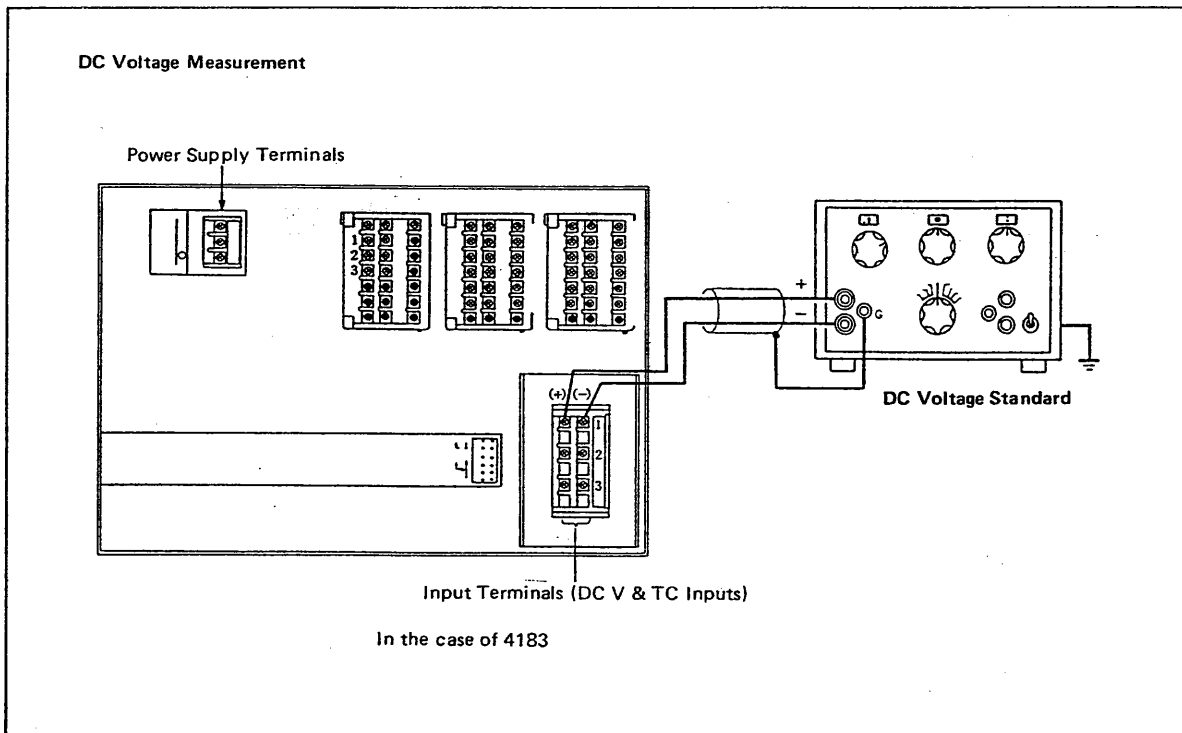

Figure 6-6.
- (1) Connect calibration instrument to the input terminals as shown in Figures 6-6 to 6-8 and allow the instrument to warm up thoroughly.\*
- (2) Check that the ambient temperature and humidity are within the normal operating conditions (see Normal Operating Conditions on page 2-5).
- (3) Apply input corresponding to 0, 50 and 100 percentage points on entered setting range, and calculate errors from reading on the recording chart.